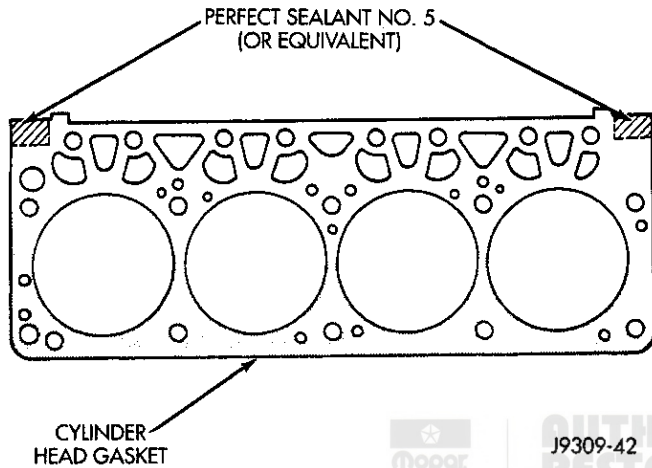

Fig. 14 Sealant Location on Cylinder Head Gasket
(1) Apply Perfect Sealant No.5, or equivalent, to both sides of the gasket (Fig. 14),